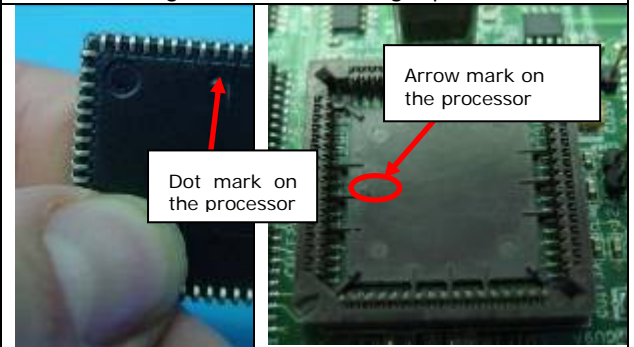

Fig. 5-6: Align the processor in the cavity correctly
- Align the "dot" which is marked on the processor with the "Arrow" mark in the processor cavity (see Fig. 5-6).